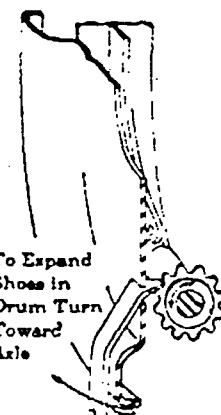

Fig. 4
2. Loosen anchor pin nut at (C).
3. Tighten star gear (A) until wheel can just be turned with both hands. (See Fig. 4.) Then tap anchor lightly toward drum.
4. Snug up anchor pin nut at (C) —not tight.
6. Back off star gear (A) twelve notches.
7. Check and set clearance on secondary or top shoe .010" at anchor end and .010" at star gear (adjusting end) by means of eccentric (B).
8. Tighten anchor pin nut at (C) with a 16-inch wrench.